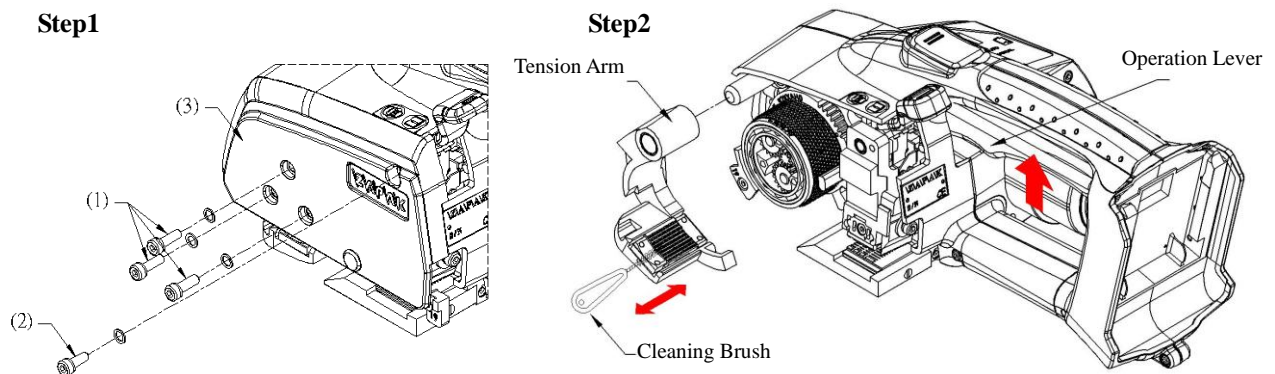

FIGURE 18. Cleaning Strap Grippers
7.2.2 Complete cleaning method: (Refer to Figure 18)
Step1: Unscrew and take off 3 pieces of M4×0.7×12mm screws (1) & 1 piece of M4×0.7×10mm screw (2) and side cover (3) can be removed.